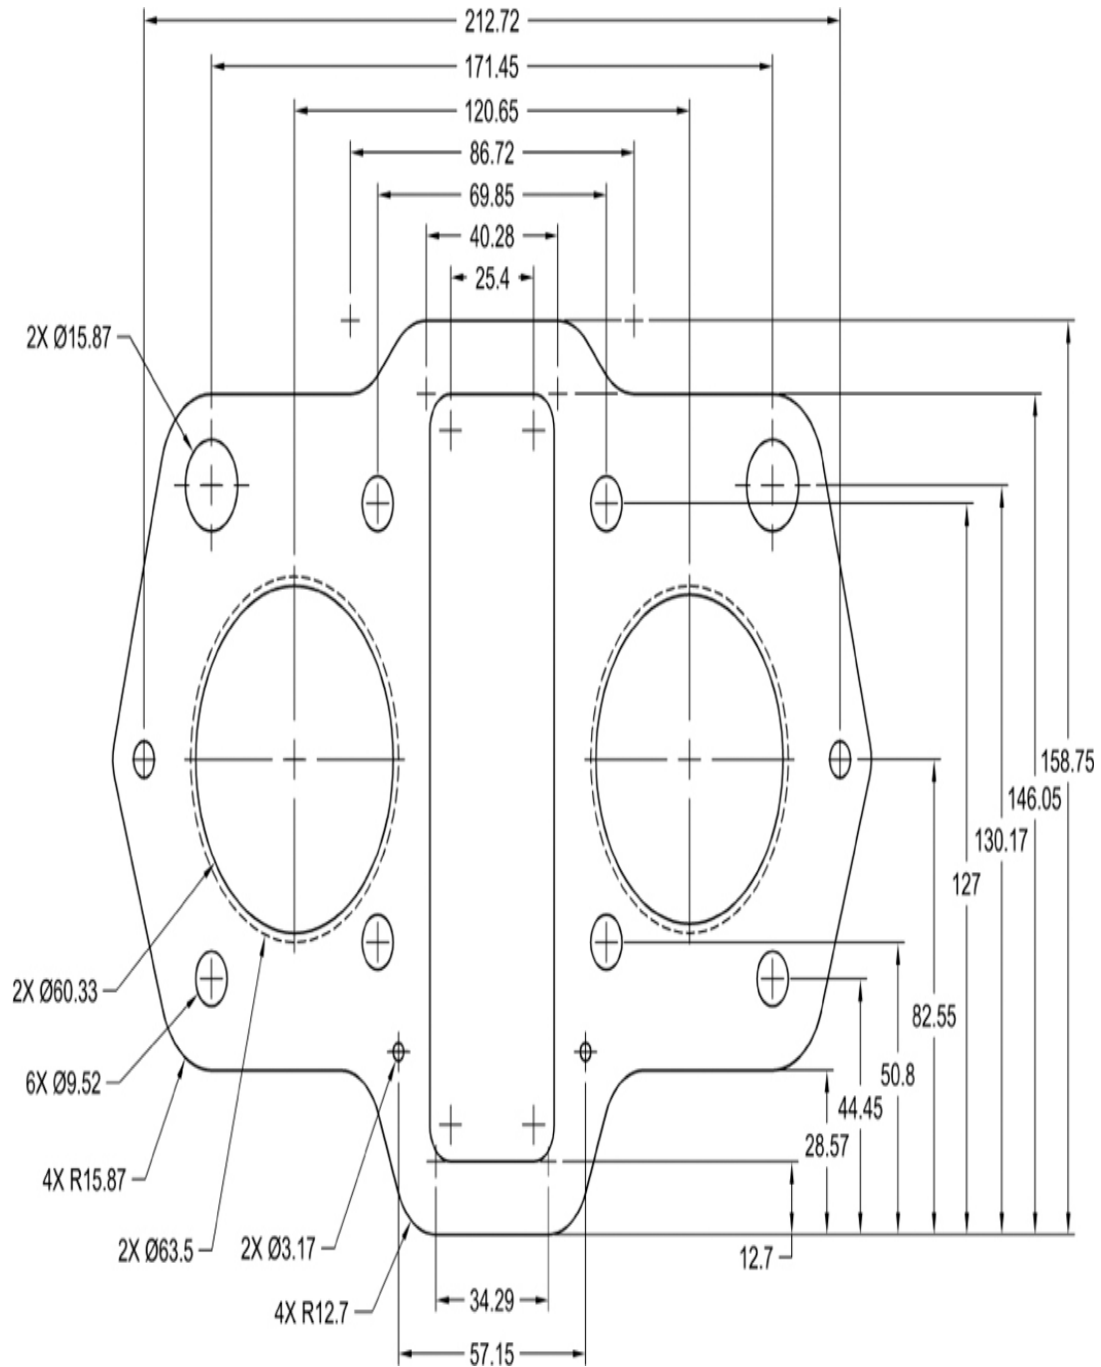

Figure 7-53
3. Draw the motorcycle head gasket shown in **Figure 7-53** using the appropriate layers.